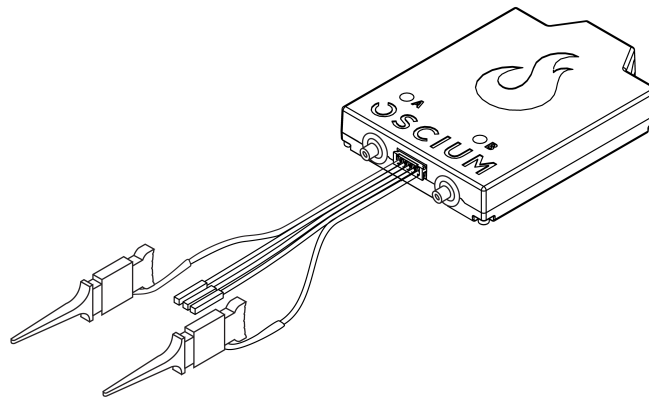

Figure 2. Digital logic input to connect the iMSO-204x with grabbers attached to the digital channel 1 and ground input.
2. Connect the logic harness to the iMSO and attach grabbers to wires for D1 and ground (Figure 2).